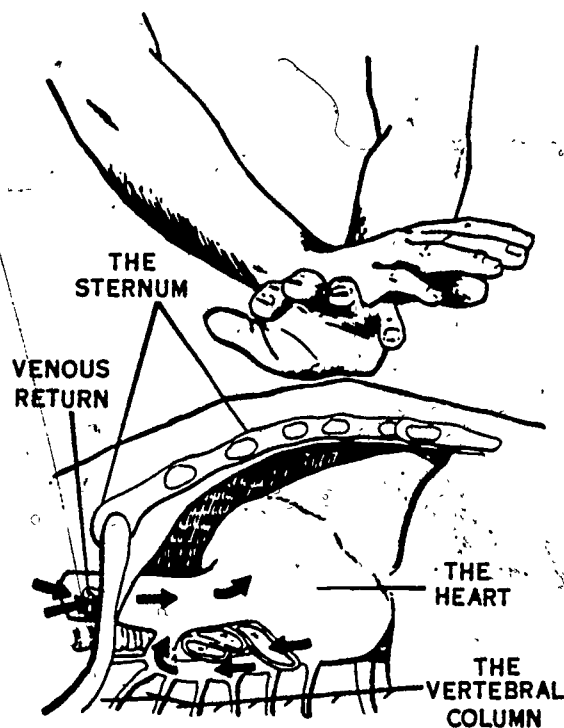

Figure 2-8. Release pressure, heart refills.
6. Release the pressure immediately, lifting the hands slightly (see figure 2-8), then repeat in a cadence OF APPROXIMATELY 60 THRUSTS PER MINUTE.